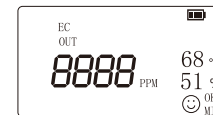

Figure 6
- Long press TDS-OUT Button to display the filtered EC value. (Figure 6)